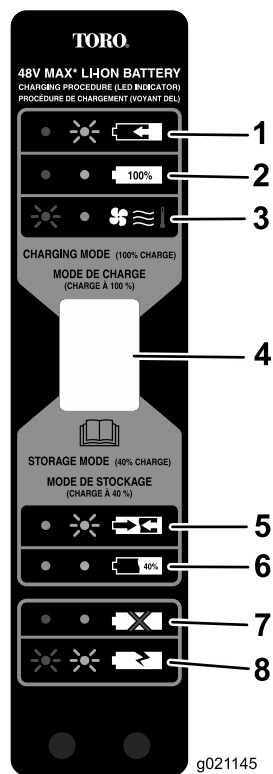

Figure 14
- Refer to Figure 14 to interpret the LED indicators on the battery charger.
Use storage mode (Figure 14) when the battery will not be used for 1 month or longer.
- When the battery is ready for storage (Figure 14, item 6.), remove the battery from the charger.